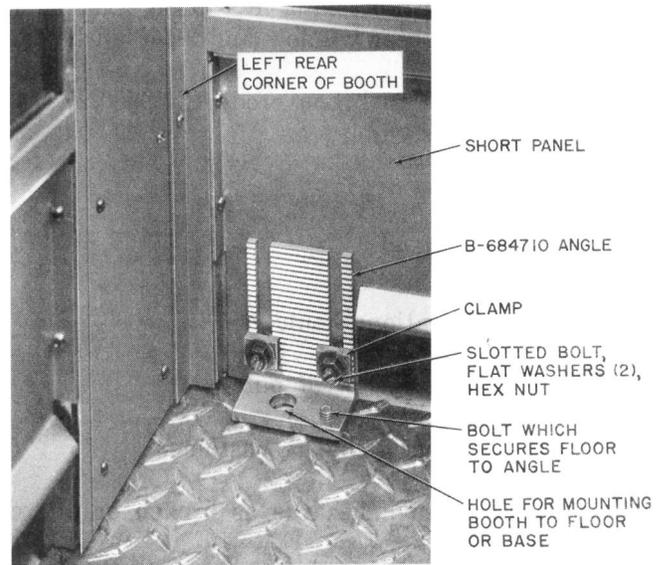

Fig. 9—Anchor Bracket and Leveling Device
2.17 Adjustable mounting angles are provided to facilitate booth leveling up to 3 inches (Fig. 9). They are also used for bolting the booth to its mounting surface.
and secure anchor brackets (Fig. 9) of booth to template using four 3/8-16 by 1-1/4 hex head bolts, four 3/8-inch lockwashers, and four 3/8-inch flatwashers.
(d) Adjust the anchor brackets (Fig. 9) if necessary, and ensure that the booth is level.